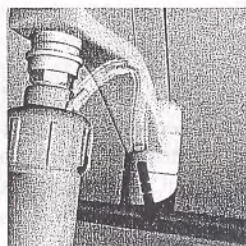
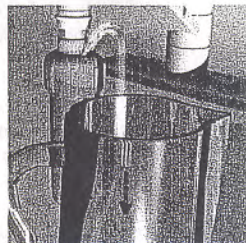

Fig. 3
Fig. 4
Step 4: Remove the small protective cap from the stainless steel tube near the top of the unit and attach the plastic tubing as shown in Fig. 3. Fresh water will drip from this tube. Collect it by directing the tube into a pitcher or other container. Place the container in the sink to catch any overflow. Fig 4.